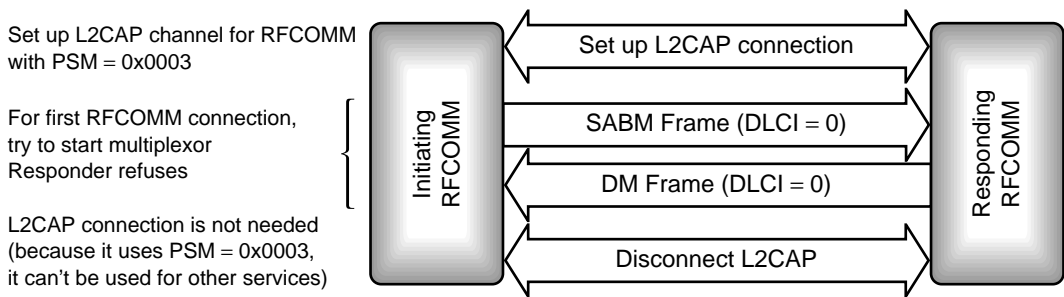

Figure 10–2 Refusing an RFCOMM connection.
The first frame to be sent on an RFCOMM channel is a SABM frame; this is a Start Asynchronous Balanced Mode command. If the responding device's RFCOMM is willing to connect, it goes into Asynchronous Balanced Mode (ABM), and sends back an UA frame. If the responding device's RFCOMM doesn't want to connect, it refuses the connection by sending a DM frame. Figure 10–2 shows an RFCOMM channel setup being refused in this way.
RFCOMM has a 60s timer which is started when a command is sent. If an acknowledgement isn't received when the timer elapses, the connection will be shut down. This is different from GSM 07.10, which resends the command when the timer elapses. In the case of RFCOMM, the Bluetooth baseband provides a reliable link, so if the command wasn't acknowledged first time, it is not likely to be acknowledged a second time. For the SABM command, the timeout can be extended because security procedures might mean that this command takes longer to process than others. If RFCOMM ever times out and disconnects, it must send a DISC (disconnect) command frame on the same DLCI as the original SABM frame just in case the other side has come back into range and thinks the connection is still active. Figure 10–3 shows a channel being closed down because the initiator timed out.
If the connection succeeds, the responder replies to the SABM frame with a UA (un-numbered acknowledgement) frame. This is followed by a Parameter Negotiation (PN) command from the initiator and PN response from the responder, as shown in Figure 10–4.